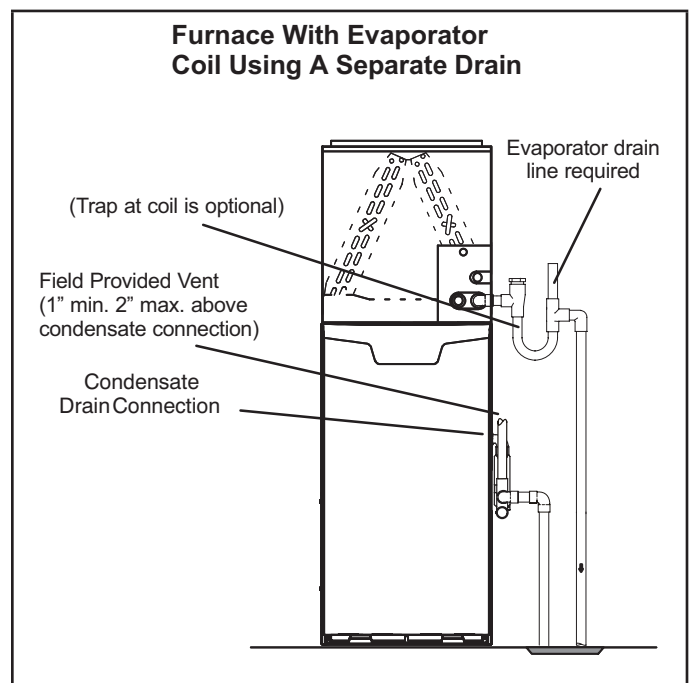
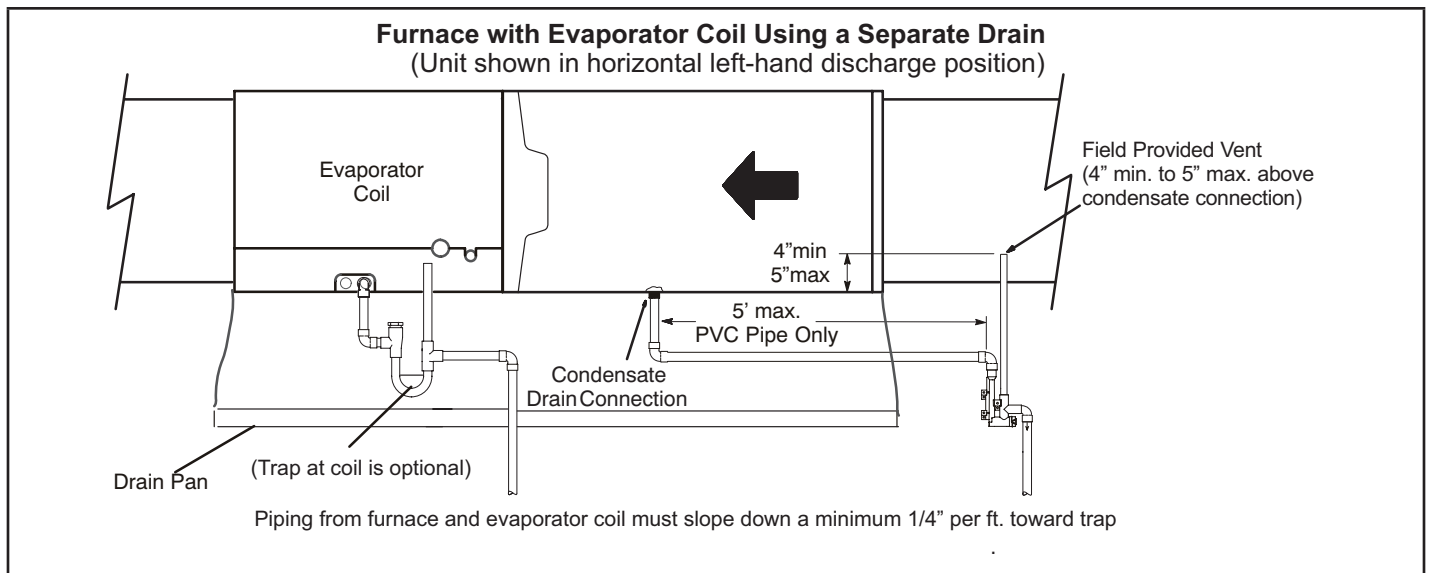
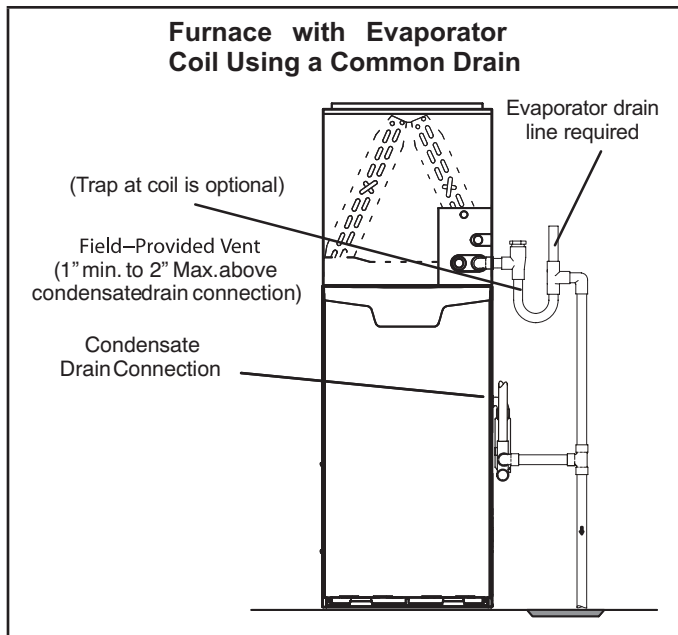

FIGURE 45
FIGURE 47
FIGURE 48
- 5 - FIGURE 45 and FIGURE 47 show the furnace and evaporator coil using a separate drain. If necessary the condensate line from the furnace and evaporator coil can drain together. See FIGURE 48 and FIGURE 49.
Upflow furnace (FIGURE 48) - In upflow furnace applications the field provided vent must be a minimum 1" to a maximum 2" length above the condensate drain outlet connection. Any length above 2" may result in a flooded heat exchanger if the combined primary drain line were to become restricted.